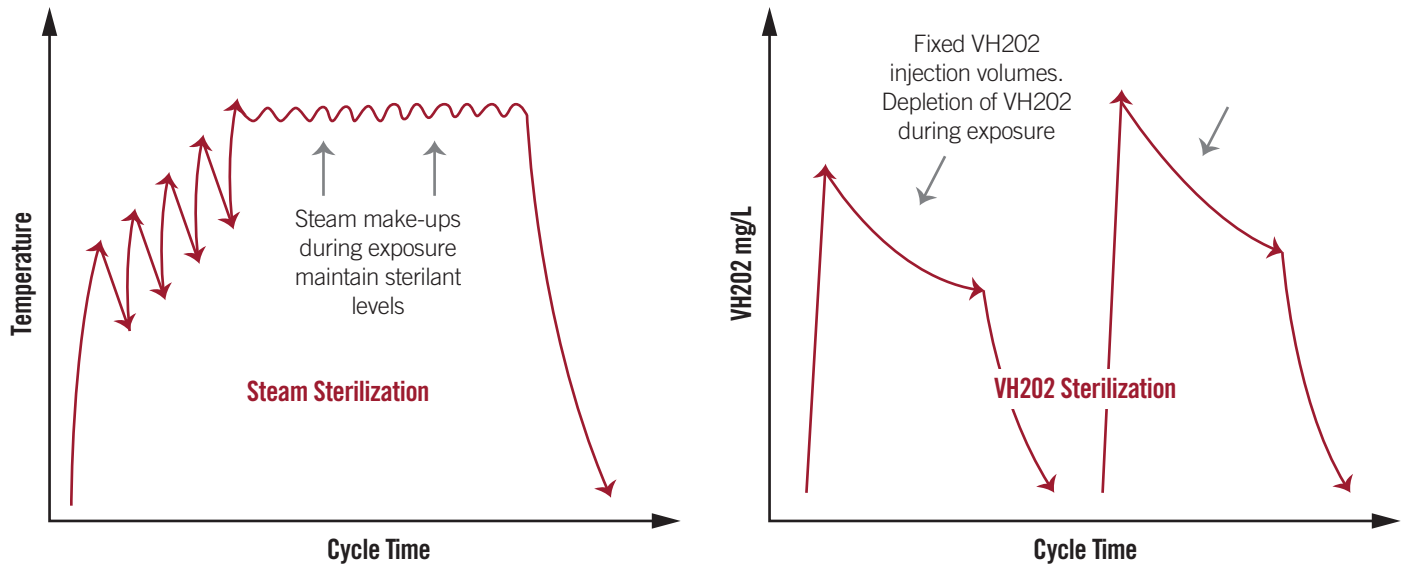

Figure 1: Relative Sterilant Levels in Steam and VH2O2 Sterilization
2. The fixed amount of VH2O2 injected, by its nature, is relatively unstable and readily depletes during the exposure phase via several different chemical mechanisms1,10,11. Figure 1 illustrates the relative differences in sterilant levels maintained in steam sterilization versus the natural depletion that occurs during exposure after VH2O2 injection.